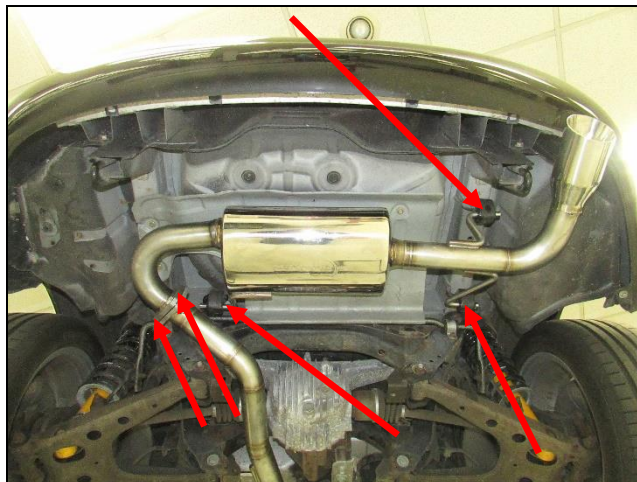

Figure 8
2. Install the Blackheart muffler and slide in (x3) hangers in the OE rubber isolator. Reuse the OE gasket (replace if needed). Use the supplied (x2) nuts and (x2) bolts and connect the two exhaust flanges together (**Figure 8**).